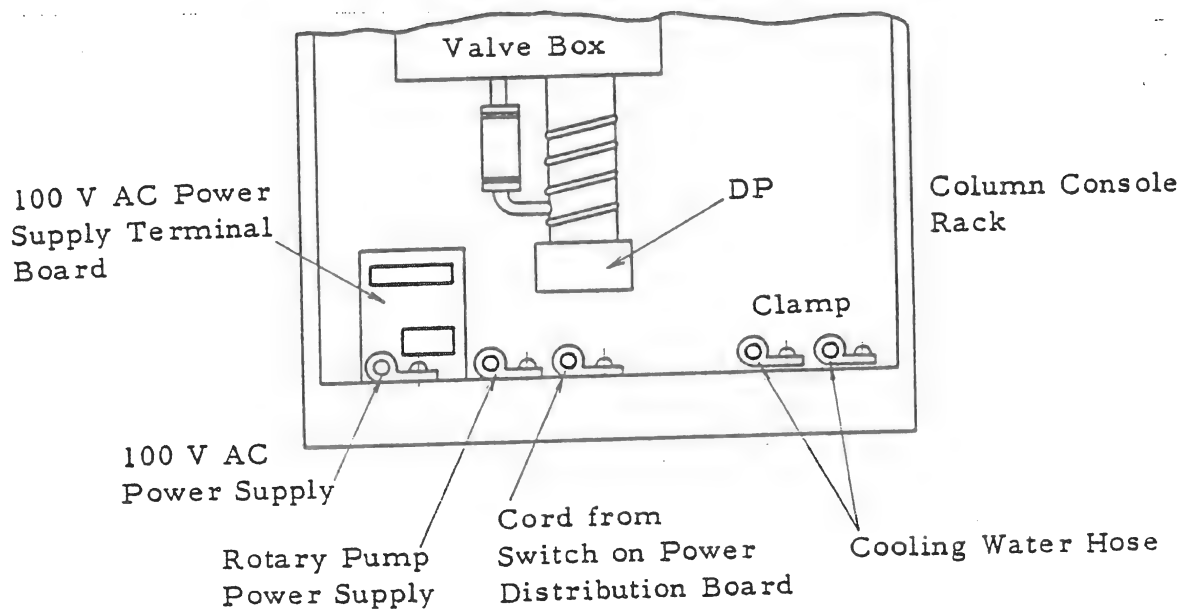

Fig. 3-4 Rear View of Column Console Rack
- (1) Connect DEF, condenser, gun alignment, detector, 100 V AC power cord, and high voltage cable from the power supply to the column. For fixing cables to the column console rack, see Fig. 3-4.